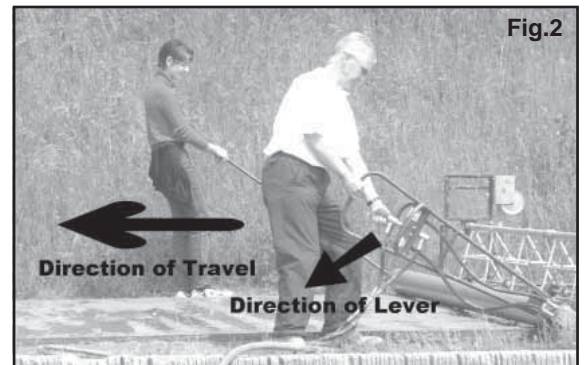

Fig.2
3. Ensure that you move the control lever to the correct position for the direction of travel (See Fig. 2)
5. To start the roller striker, move the Control Lever slowly to the **DRIVE** position as indicated below (See Fig. 2)